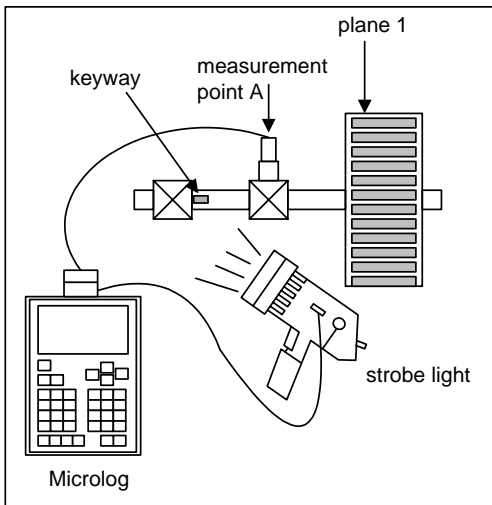

Figure 1: Setting up equipment for single plane balancing
1. Set up the balancing equipment. (See Figure 1.)